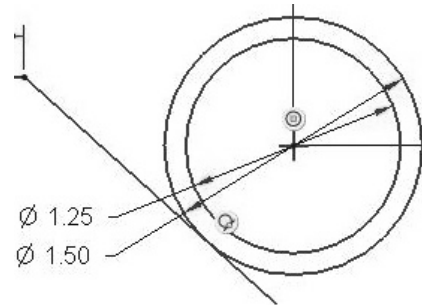

Figure 3-54 Slanted Surface Touches Outer Circle
Step 11: Use the **Line** tool to draw the slanted-surface of the jig. Start at the base of the tab, move upward a couple of inches, then horizontally toward the two circles. Do not draw horizontally through the center of the circles. Stop before reaching the circles. Draw a slanted line that touches the outer circle tangent (Figure 3-54), then draw a vertical line back down to the base.